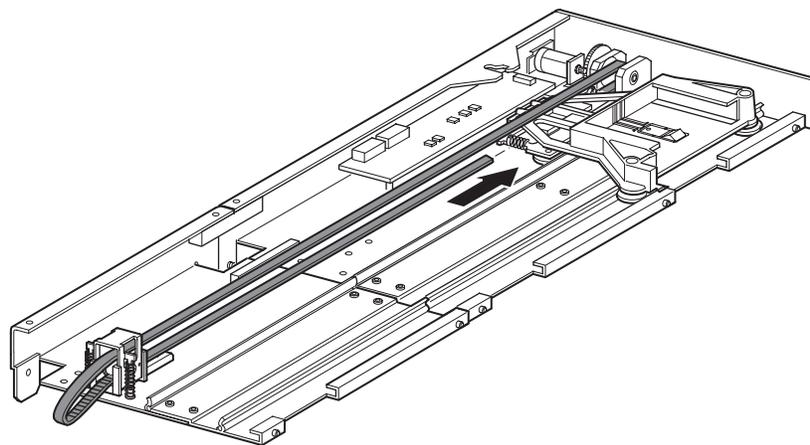

Figure 2–18: Installing the timing belt
4. Position the media elevator car over the belt block access cutout (see Figure 2–11).